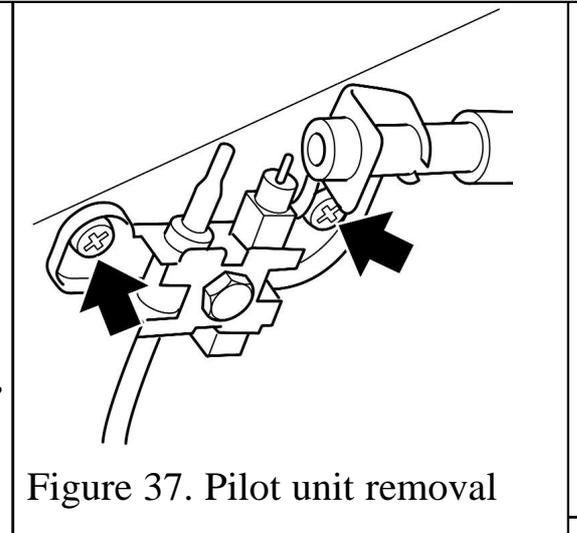

Figure 37. Pilot unit removal
5. Remove the two screws securing the pilot unit to the burner (See figure 37).